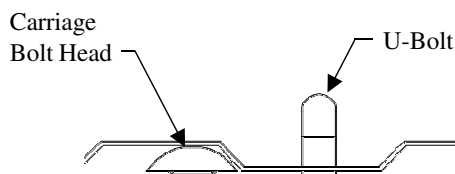

Figure 6
3. Install under bed supports with (4) vertical 5/8" bolts in rails.
- 5A. Use the (2) inner slots on forward side of head to drill 5/8" diameter holes up through truck bed. Make sure that holes go through the truck bed corrugation that is down so that head of carriage bolt is recessed below top of bed corrugation.
7. Using the U-Bolt slots as a guide, drill four 9/16" holes in the bed. These holes must be in a lower bed corrugations to limit the amount of U-bolt showing above the bed (see figure 6).